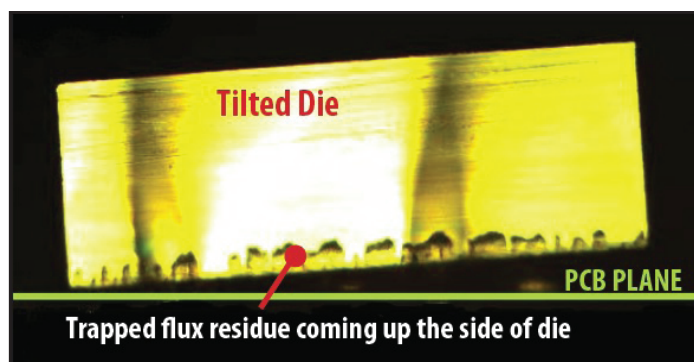

Figure 11: End view of a tilted die with trapped flux
A tilted die will make the device impossible to thoroughly clean, leaving residual flux and enabling dendrite growth. Figure 11 shows a tilted die. The main causes of die tilt were found to be; (1) uneven thickness of solder paste, (2) excessive vibration during reflow, (3) non-optimized temperature profile and (4) oversized solder mask and / or oversized solder stencil (too high solder volume). Normally, the solder flows evenly and melts roughly at the same time. Care must be taken to adjust the solder reflow profile when an element of significant mass is located nearby. All of the solder has to flow for the surface tension to level and align the device.